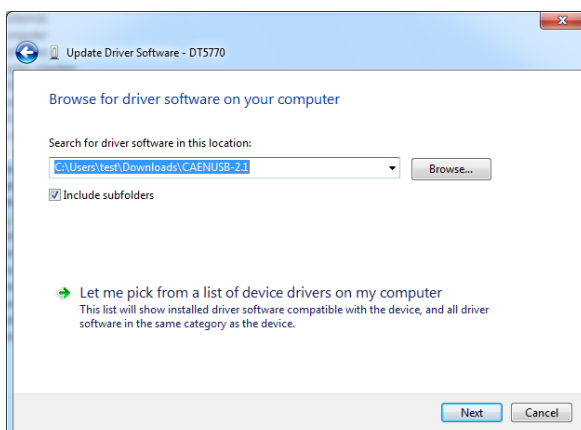

Fig. 10.3: Pointing the driver file to update
5. Point the driver folder in the PC destination path through the “Browse...” button and check “Include subfolders” (see Fig. 10.3).